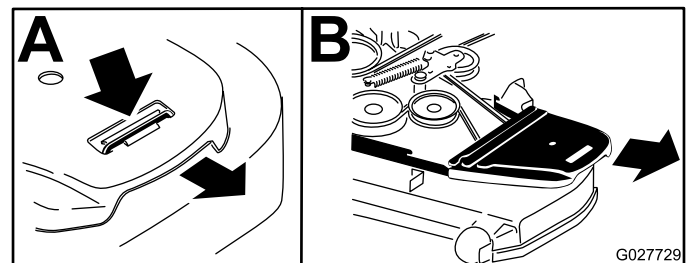

Figure 81
6. Remove the belt covers and the bolts attached to them (Figure 81).